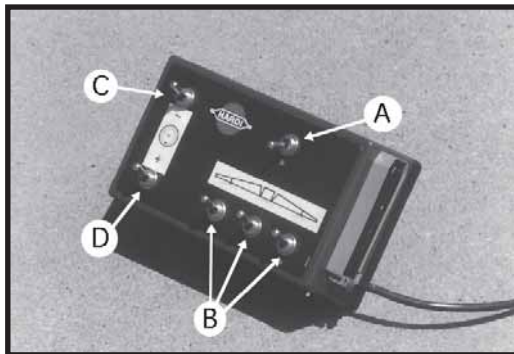

Fig. 10a
7. Shut-off the first boom distribution valve switch **B**. (Fig. 10a)
11. Operating the control unit while driving: In order to shut off the entire boom activate on-off switch **A** (Fig. 10a). This returns all the pump outputs to the tank through the return system. The diaphragm anti-drip valves ensures instantaneous closing of all nozzles.